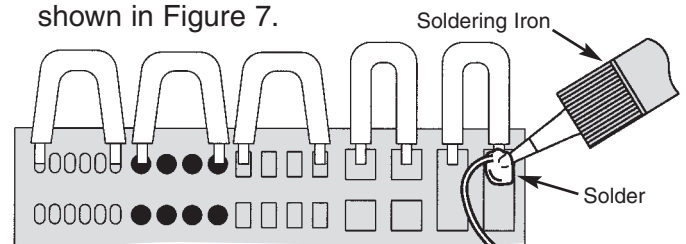

Figure 7
2. Place the iron and the wire on top left pad as shown in Figure 7. Allow the solder to flow around the wire. Then, remove the iron and let the solder cool. You may need to add some more solder. The solder should be neat and smooth.
4. Bend the wire and solder it to the next pad, as shown in Figure 7.
5. Now solder the remaining wires to the pads as shown in Figure 7.